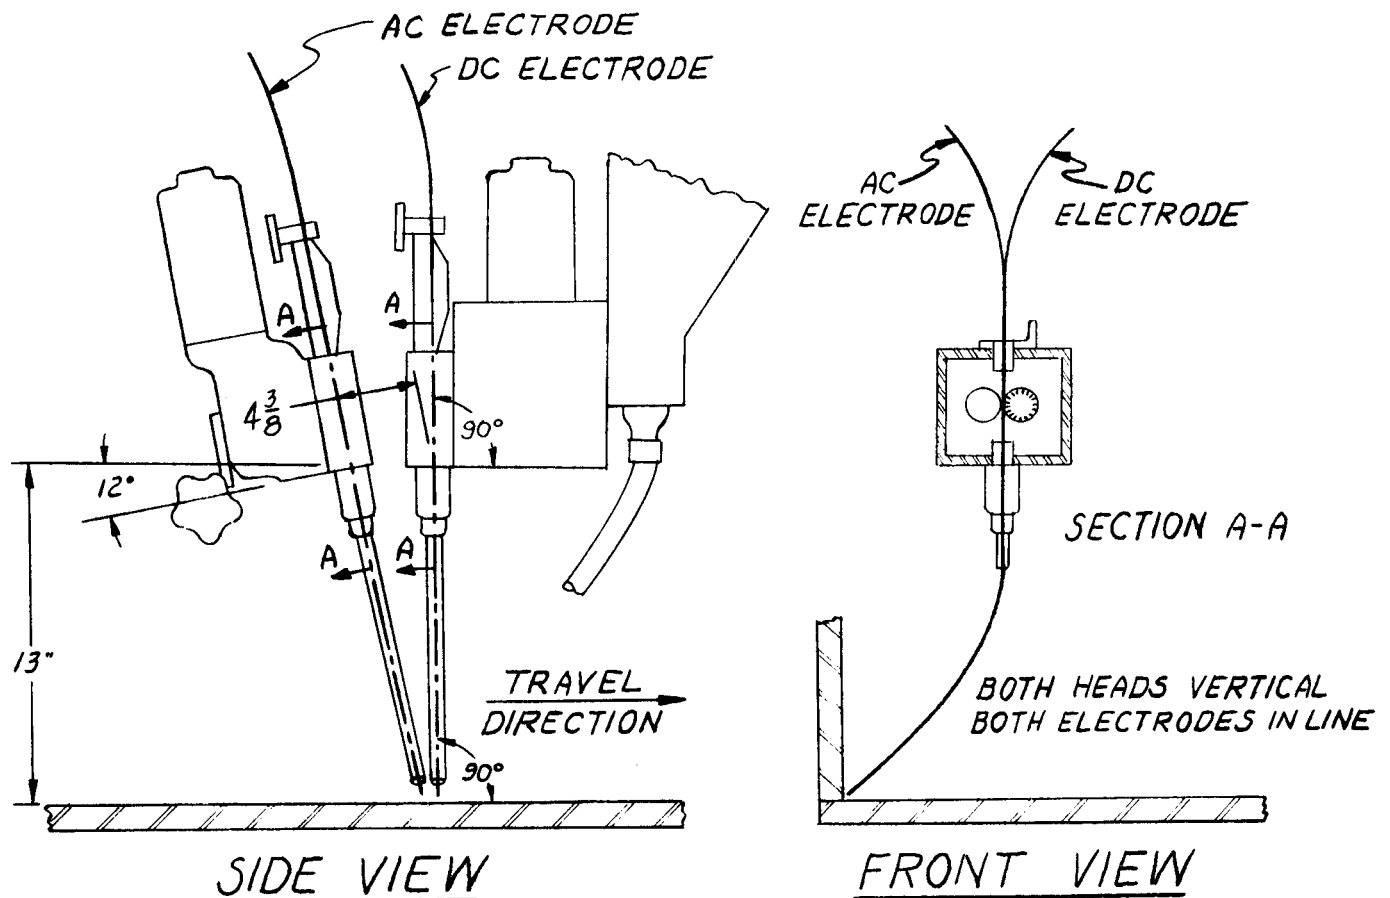

Fig. D2.7.12-1
6. Position the heads as shown in Fig. D2.7.12-1. To do this the head mounting must be raised. This is most easily done if the heads are removed from the mounting bracket.